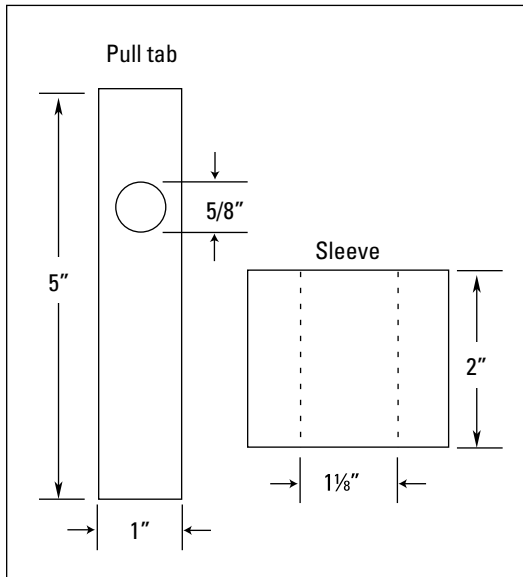

Figure 7-5:
5. Make the linkage and arm as shown in Figure 7-5.